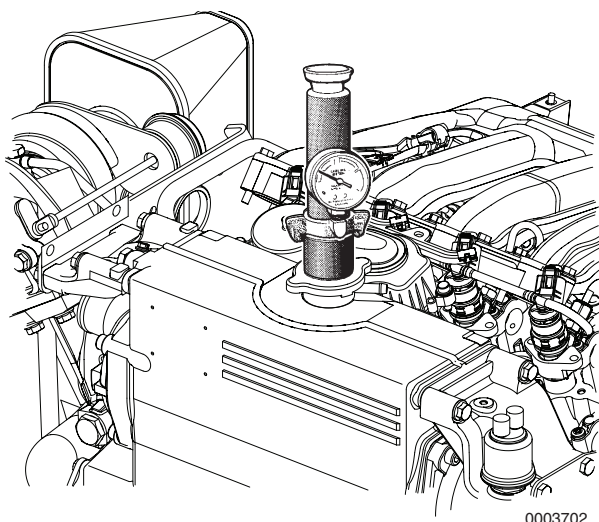

Figure 7-2
4. Pump until pressure is 1.45 bar (21 psi) (**Figure 7-2**).